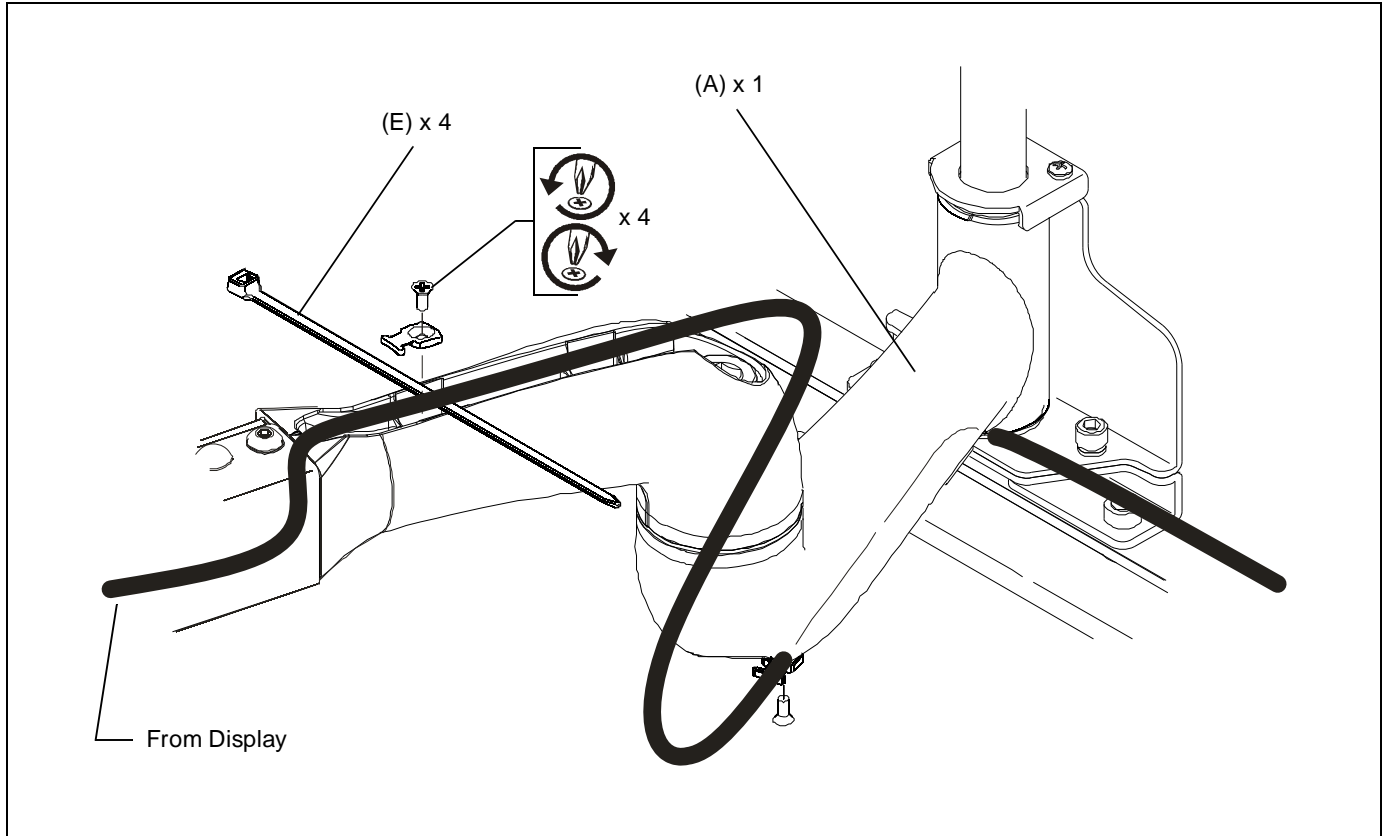

Figure 4
1. Loosen front and rear cable clamps on top arm. (See Figure 4)
2. Thread cable ties (E) under cable clamps and secure clamps to top arm. (See Figure 4)
3. Route power/audio/video cables through the cable channel in top arm (See Figure 4), allowing sufficient slack in cables for left/right movement of display and swing arm, and also swing arm extension and retraction.
4. Secure cables to top arm using two cable ties (E).